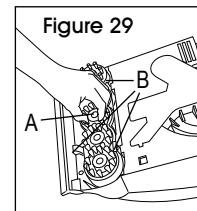

Figure 29
2. Grasp inner portion of brush (A) and pull brush assembly out slightly to reveal latches (B). (See Figure 29)